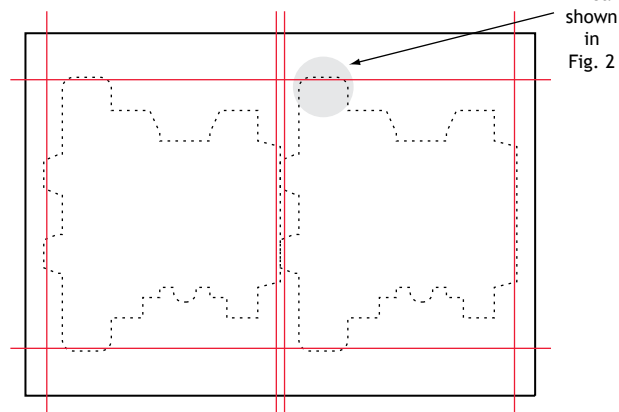

Fig. 1
1. Guillotine 2mm inside the perforated edge of each box as indicated in Fig.1 & 2